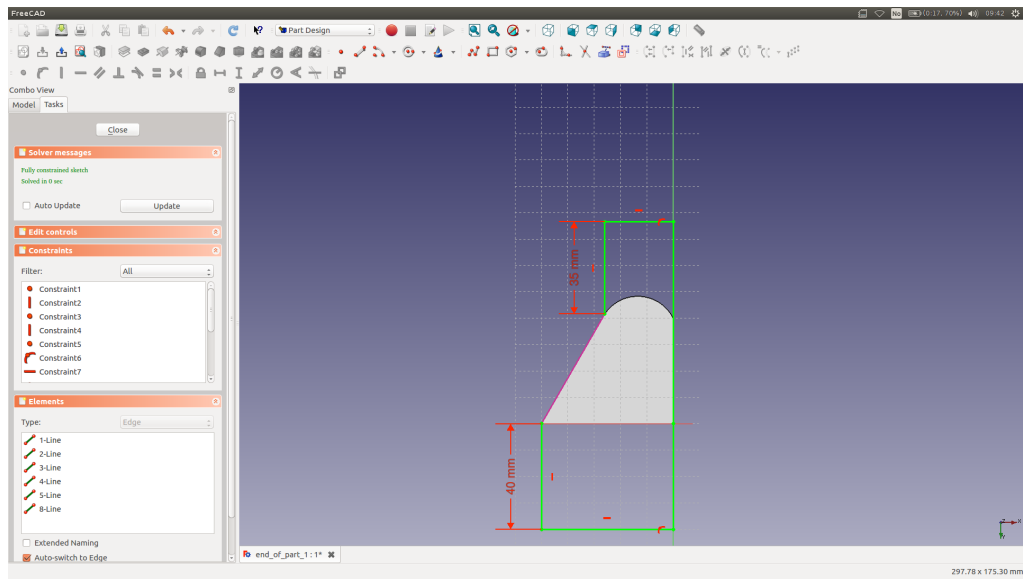

Figure 8
- Build a sketch similar to the one shown in Fig. 8. Note that the imported external edge is available for connecting points on it and using as a constraint but is not a part of the sketch, so you will need to build a line on top of it to get a closed shape that can be extended to 3D. Close the sketcher. Rename the sketch as **SketchBase**.